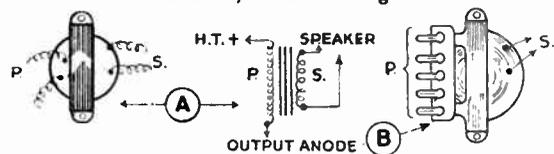

Fig. 3—Loudspeaker transformers
You can make the periscope any height—as high as a house if you like—but the taller they are [the bulkier they are to carry, and the more tiring to hold. In Fig. 2 the artist has used a conventional 'break'. This does not mean that the material is to be cut in two parts, horizontally, but merely that, to save space, the drawing has been shortened. The case, as made up, will appear as in Fig. 3. 2ft. high is a suitable size, and the mirrors can be 3½ ins. by 2½ ins. Any glazier will cut these for you quite cheaply.
Moving coil speakers cannot have many turns on the speech coil. Their impedance is consequently low and an output or speaker transformer must be used to couple them to the output valve in the receiver, as shown at (A) in Fig. 3.
If no alternatives are available, as at (A) in Fig. 3, the transformer is intended for one particular class of output valve. It will work with others, but not quite as well as would a transformer with the correct primary impedance. A tapped transformer is therefore usually much more useful for the experimenter.